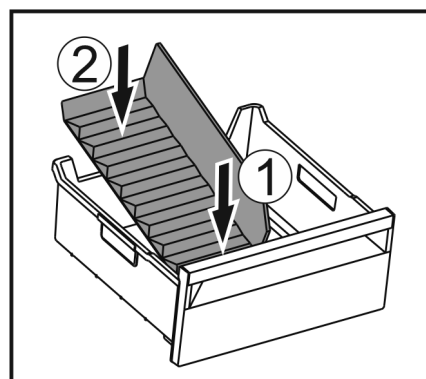

Fig. 161
- ▶ Insert the front part of the ice compartment divider. *Fig. 161 (1)*
- ▶ Lower the rear part of the ice compartment divider to the drawer bottom. *Fig. 161 (2)*